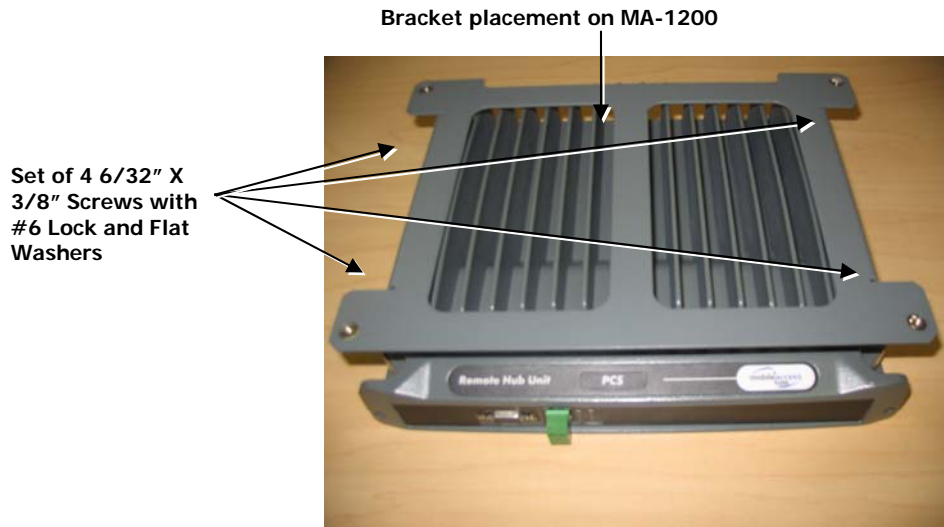

Figure 3-11: BRKT-1200-STK on top of MA-1200
3. Place the support bracket BRKT-1200-STK on top of the MA-1200 where the notched side of the bracket is towards the rear of the unit and secure in place with supplied screws as shown in **Figure 3-11: BRKT-1200-STK on top of MA-1200**.